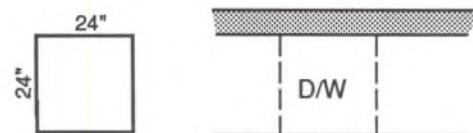

Fig. 9.10 Dishwasher size and designation.
Most units are designed to be built into the 24" base cabinets and fit under the countertop. (See Fig. 9.10.)
2. When the dishwasher is located beneath the counter, it is indicated with two dashed (hidden) parallel lines 24" apart, on the countertop. The letters D/W are written between the dashed lines as in Fig. 9.10.